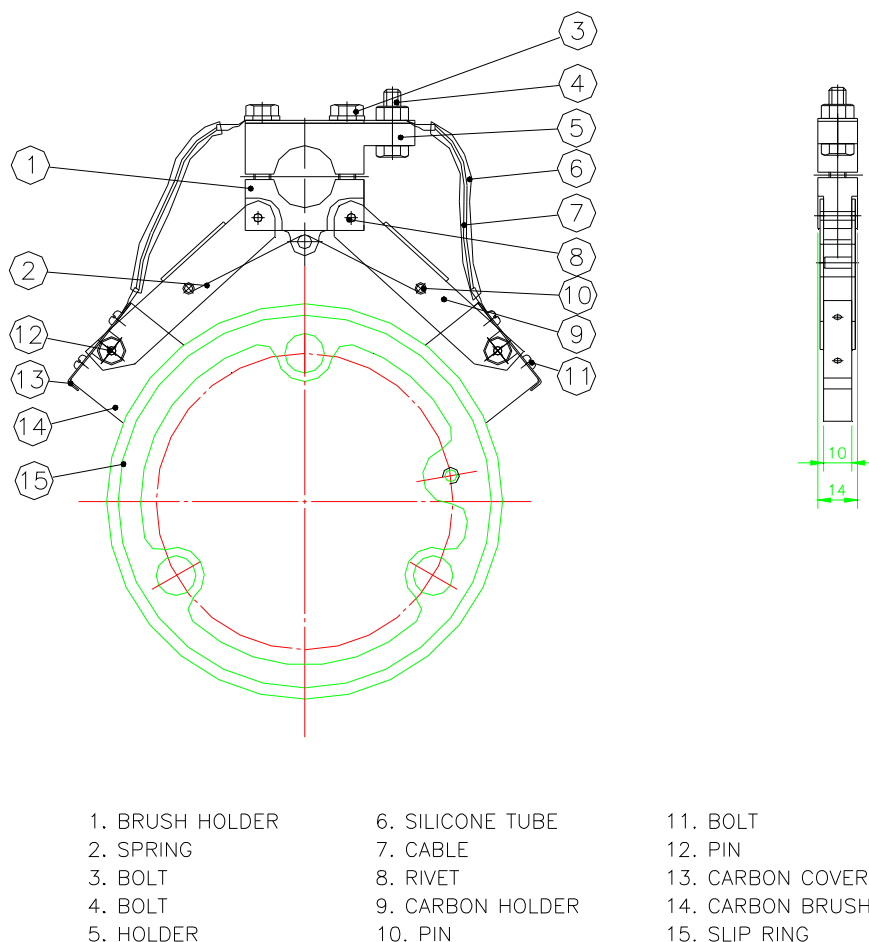

Figure 6. Carbon brush Structure
- 2) Even if the carbon brush is shortened by wear, you don't need to adjust the contact force. if the carbon brush(see the figure 6.) has worn about 2/3 of thickness, Change to new one.